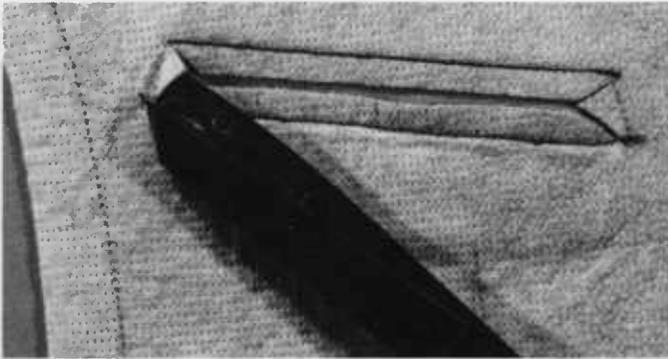

figure 40
- From the wrong side, cut between the upper stitching line and lower stitching line. Cut diagonally toward the corners, forming a "Y" (*figure 40*). Cut to the ends of the stitching lines, but be careful not to cut the welt seam allowance or the welt opening insert.